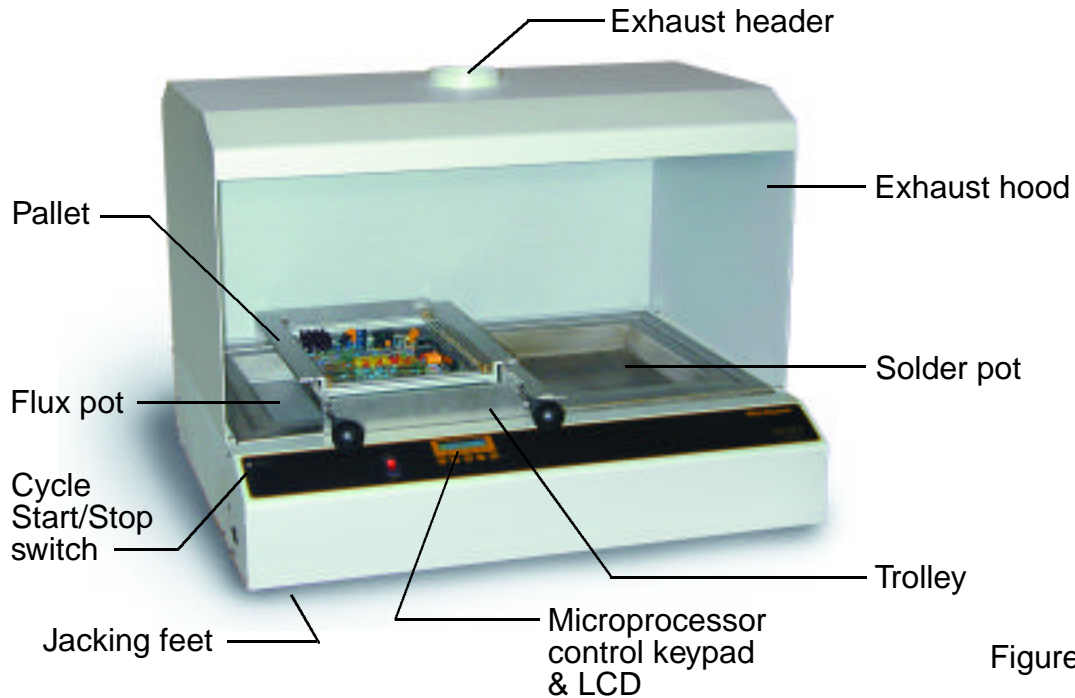

Figure 1.
1.2 Parts of the System: (See Figure 1)